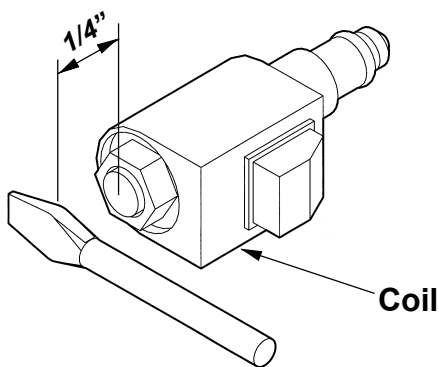

**FIGURE 1**
**1.** Verify that power is being supplied to the Solenoid Terminal "A" (Ref. Fig. 1). Recharge the battery if less than 12 volts.